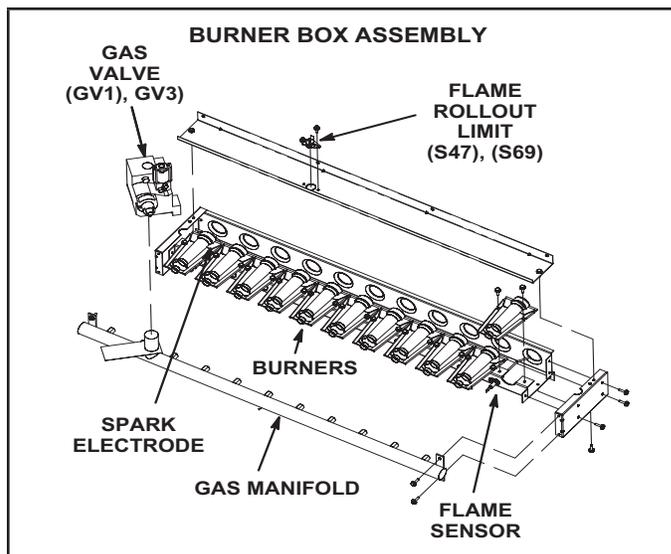

FIGURE 25
- 3 - Remove two screws securing burners to burner support and lift the burners from the orifices. See FIGURE 25. Clean as necessary.